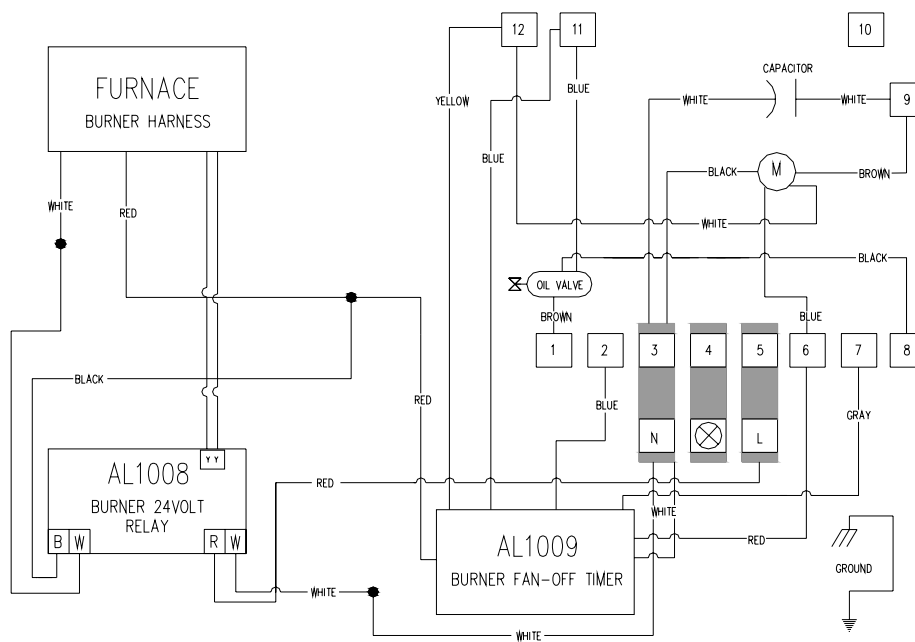
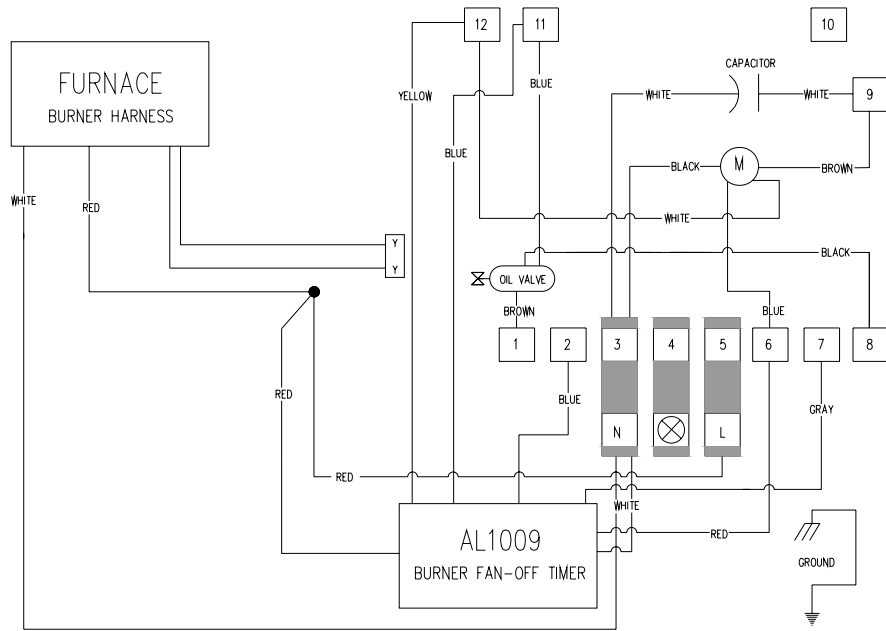

Figure 2
Figure 3
Note: If burner has AL1008 24v relay board installed, follow installation procedure steps 1 thru 18 & fig 2. If there is no AL1008 24v relay board, disregard steps 5, 6, 9 & 16.
10. Install the threaded plate and clamp onto the sub-base at terminal #11 and terminal #12, See Figure 2. Install the provided screws onto the plates and clamps but leave loose.
11. Rewire the sub-base as follows: refer to **Figure 2 & Figure 3** to ensure the correct wiring. Remove the white wire (motor) from terminal #7 and place it on terminal #12 with the yellow wire from the AL1009 circuit board and tighten the terminal screw.
15. Take white wire from AL1008 and the white wire from AL1009, place them on the N terminal. If burner is not equipped with AL1008, only wire the white wire from AL1009 to the N terminal. (Figure 3)
17. Take black wire from AL1008 and red wire from AL1009, to red power wire. If not using AL1008, make connection from red wire on AL1009 to the L terminal & red power wire. (Figure 3)
18. Take white wire from AL1008 and wire to white power wire. If not using AL1008, connect white power wire to the N terminal. (Figure 3)